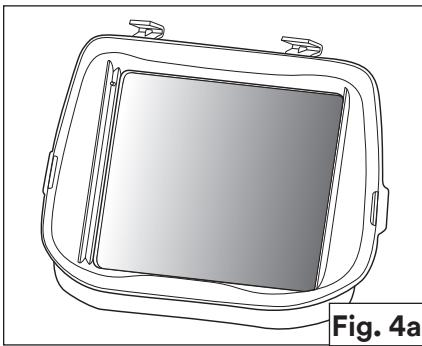

Fig. 4a
- 2. G5 Series Passive Filter Assembly:** The ADF in the welding helmet may be removed and the welding helmet may also be used with a single shade glass (Fig. 4a). Available shades are 10, 11, 12 and 13. To insert the single shade glass option: